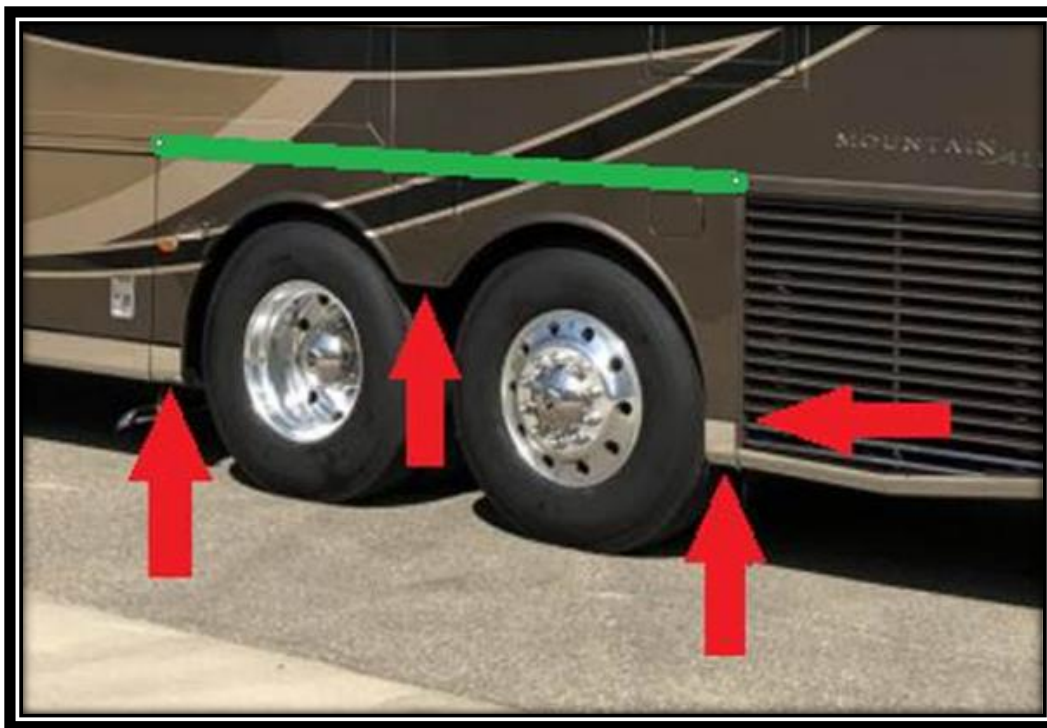

FIG. 2-1
2. Locate and remove the 4 screws indicated with red arrows. Retain hardware for reuse. Refer to FIG. 2-1.
4. Body panel is hinged at top (along green line) and can now be flipped up to expose DEF bracket and spill pan. Refer to FIG. 2-1.
15. Lower body panel back into place and use (4) retained screws to secure body panel. Refer to FIG 2-1.